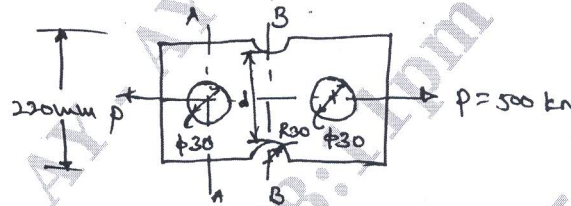

Fig.Q2(b)
- A bar of rectangular section is subjected to an axial pull of 500kN as shown in Fig.Q2(b). Calculate its thickness if the allowable tensile stress in the bar is 200MPa.